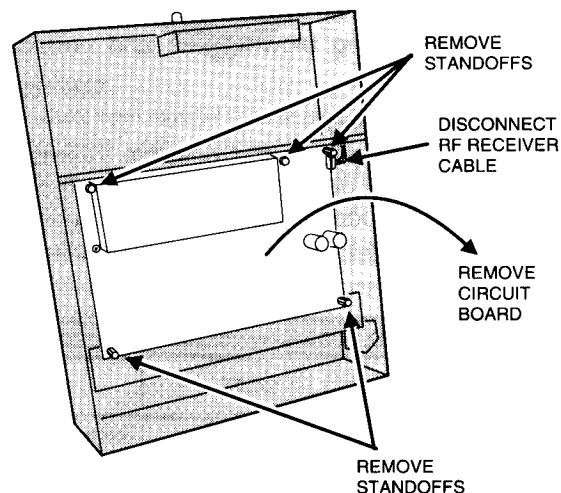

Figure 53. Removing Circuit Board from Terminal Board
STEP 2 Remove circuit board from terminals. Using a 1/4" nutdriver or pliers, remove the five standoff posts from the circuit board. Disconnect the RF receiver connector. From the bottom edge of the circuit board, carefully pry the board free from the terminal board (see Figure 53). Be careful not to lose the five nylon spacers on the screw posts. Set the circuit board on your workbench or table.